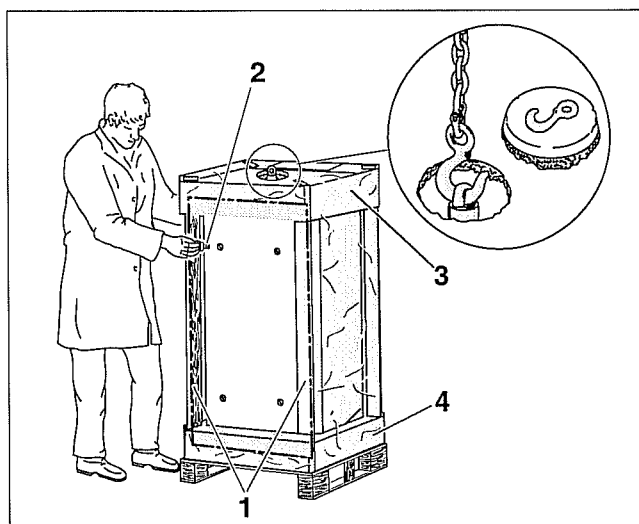

Fig. 3 Cut out of plastic wrapping and screwing in of feet
- Remove plastic wrapping across from the side of the tank labelled "Kessel -Speicherbefestigung" (Fig. 3).
- Screw in the 4 tank feet (Fig. 3, **Item. 2**) (packaged with boiler in plastic bag) about $\frac{1}{2}$ " into the bottom of the tank.
- Remove the two wooden corner posts (Fig. 3, **Item. 1**) from the bottom side of the tank.